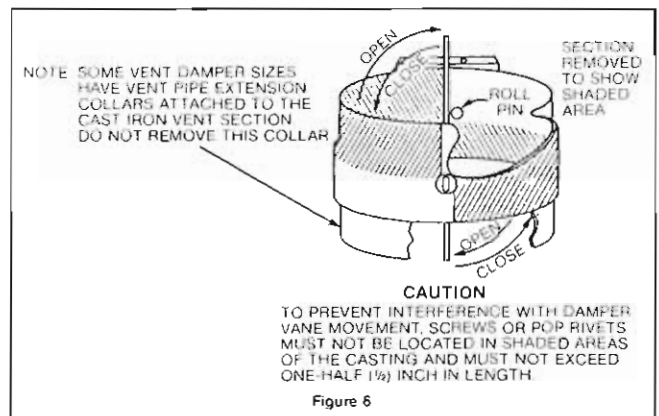

Figure 6
3. Separate the vent pipe directly on top of the draft hood or diverter and place damper in position as shown in Figures 1,2,4 and 5. The vent damper must be installed so that the damper position indicator is in a visible location after installation (see figure 4) for position indicator description. The arrow imprint on the open damper should point in direction of vent gas flow (towards chimney). Re-assemble the vent piping. Be sure the casting is well seated and fasten with 3 sheet metal screws. Screws should be no longer than 1/2 inch. See Figure 6.